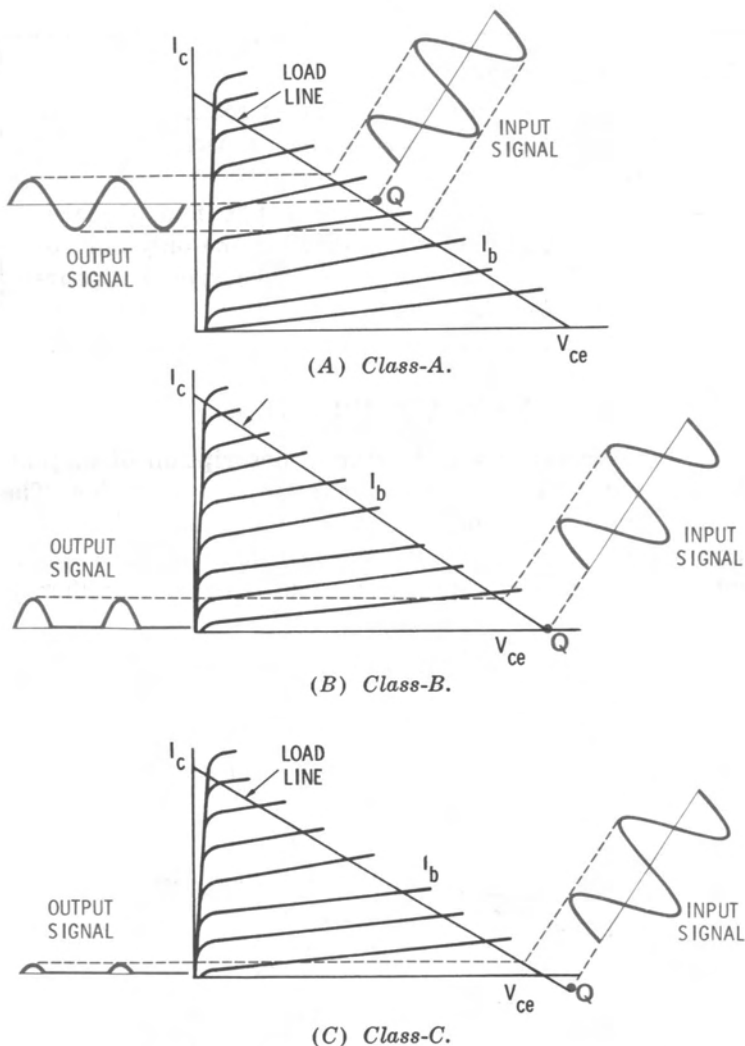

Fig. 4-2. Transistor bias and classes of amplifiers.
To indicate the effect that transistor bias has on the classification of an amplifier, the common-emitter output characteristic curves will be used. Fig. 4-2 shows the curves and the situation for the three classes. The discussion here assumes a resistor load and a coupling capacitor (an RC amplifier). In the more detailed sections on the class-B and class-C amplifiers, it will be seen that this RC network is not very practical for these two classes. The intention here, then, is just to indicate the relationship that exists between the class of amplifier, bias conditions, and amplitude of input signal.
Q4-4. From Fig. 4-2 it can be seen that if no signal is applied, the class-_____ amplifier is the only one for which direct current (not signal current) appears in the collector circuit.
- A4-4.** From Fig. 4-2 it can be seen that if no signal is applied, the class-A amplifier is the only one for which direct current (not signal current) appears in the collector circuit.